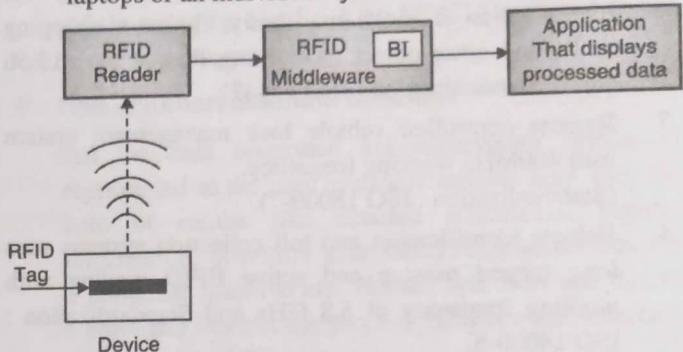

Fig. 3.3.1 : RFID Tag Communication
- As shown in Fig. 3.3.1, RFID systems contains a device implanted with RFID tag, a RFID reader, a middleware which can be used to specify business logic if any to process the data (for example payment of a vehicle on toll plaza) and the device that displays the processed RFID information which can be desktop laptops or an individual system.